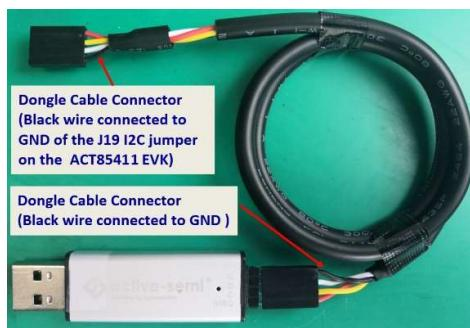

Figure 4 USB-TO-I2C Dongle Connection
- Connect the USB-TO-I2C dongle to the EVK J19 connector. Refer to Figure 4 to ensure the correct polarity of the connection.